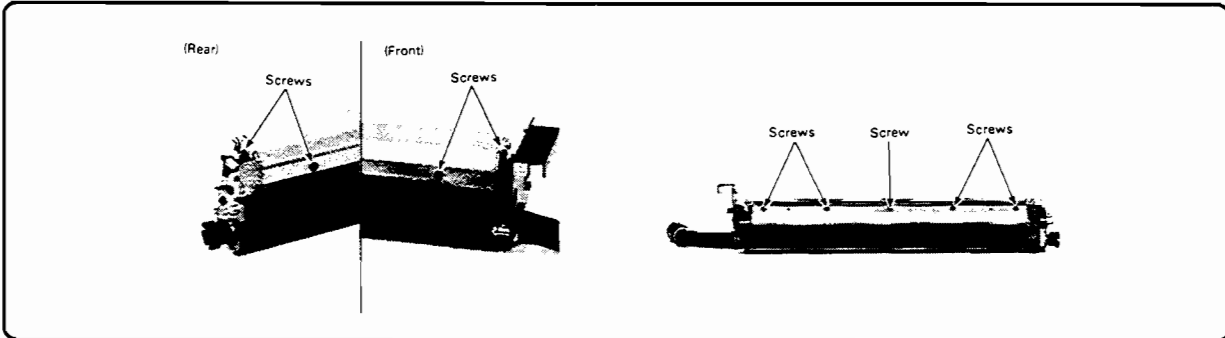

Figure 6-70. Cleaning Blade Screws
2. Remove the four screws and detach the Cleaning Station assembly top cover (Figure 6-70).
3. Loosen the five screws holding the blade mounting plate and detach the cleaning blade (Figure 6-70).